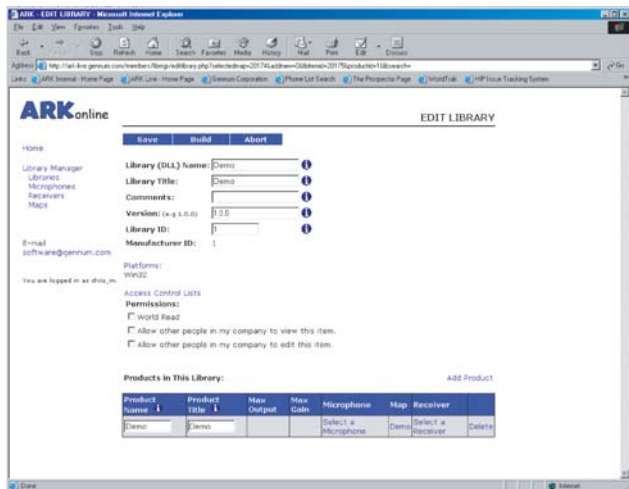

Fig. 7 Editing Library.
18. Use the ARKonline Library Manager to fine-tune products by selecting the desired Map and microphone/receiver models. (See Fig. 7)
19. Once all of the fields are filled out, build the library by selecting 'Build' at the top of the page. (See Fig. 7). Refresh the page using the reload button (or by pressing F5) periodically until the word 'Download' appears in blue.